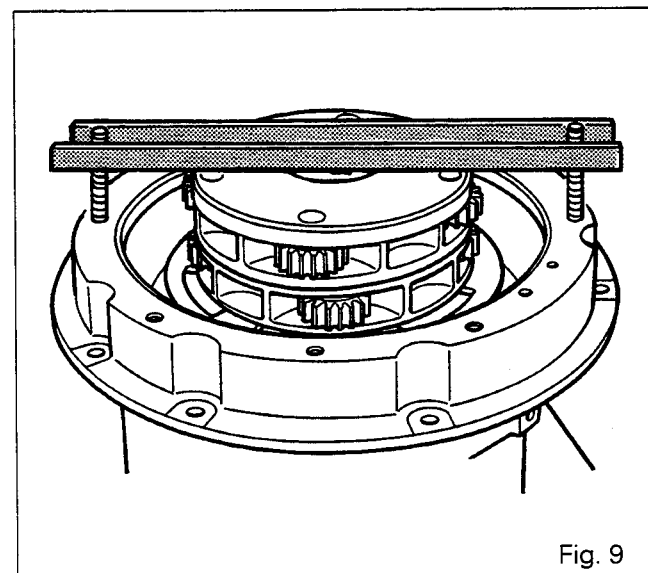

Fig. 9
15. Compress the planetary carrier assembly using tool 3376920M1 (Fig. 9).
16. Remove the retaining ring (72). Remove the tab washer (76), the planetary carrier assembly and the shims (71).
17. Remove the secondary sun gear (61) and the retaining ring (49) (if necessary).